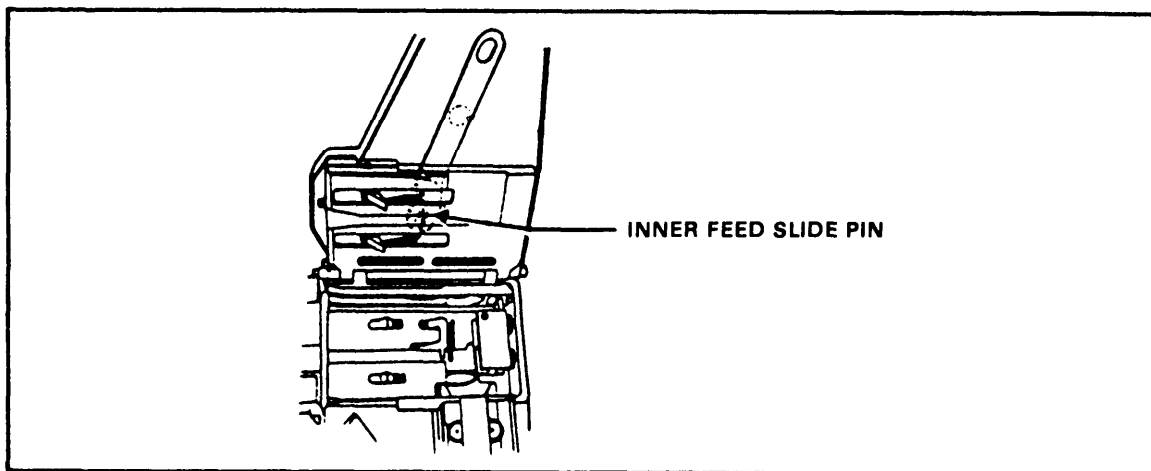

Figure 2-20. Replacement of secondary drive lever.
- (10) Replace the secondary drive lever:
- (b) Place the forked end of the secondary drive lever on the inner feed slide pin (Figure 2-20).